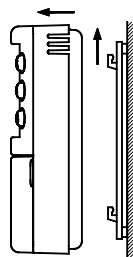

Fig. 2
1. Release the wall mount plate fitted under the base of the chronostat as shown in Fig. 2.